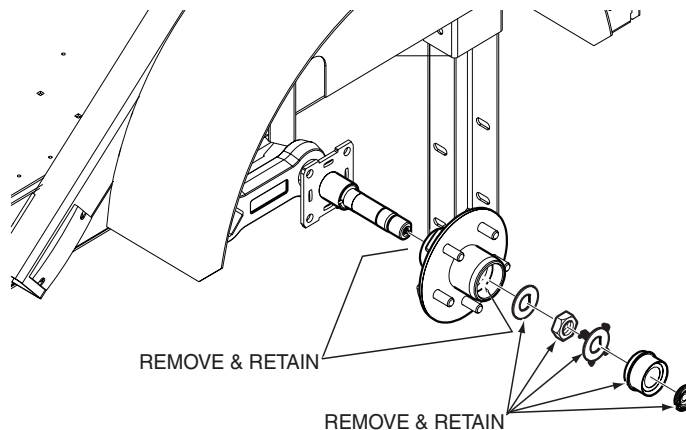

Figure 2. Hub Removal
4. Remove the hub assembly from the trailer axle. Retain the mounting hardware, cap and bearings as they will be used when installing the new hub. See Figure 2